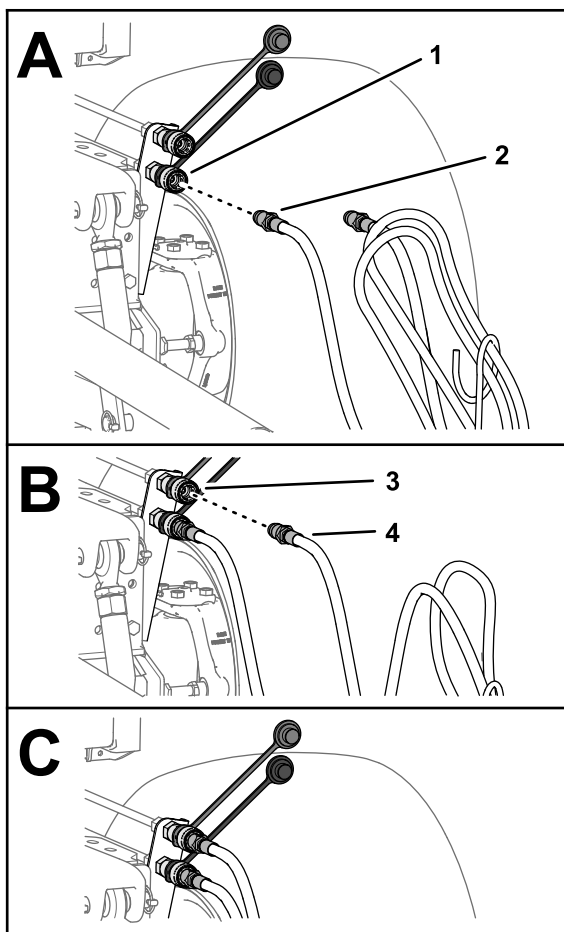

Figure 29
7. Connect the quick-disconnect fitting of the attachment extend hose to the quick-disconnect fitting of the extend circuit (Figure 29).
8. Connect the quick-disconnect fitting of the attachment retract hose to the quick-disconnect fitting of the retract circuit (Figure 29).